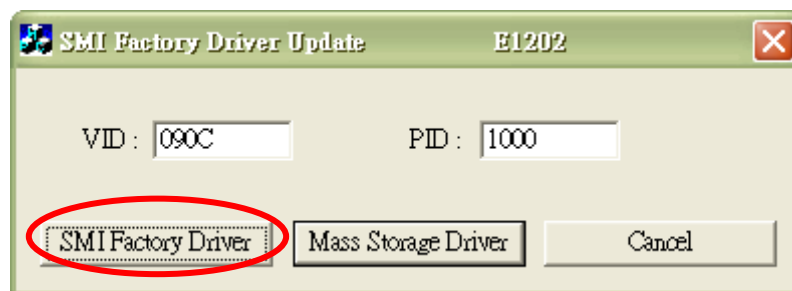

Fig. 7 The installation for Specific USB storage device driver.
Step 3 、 According to your OS version, ran the specific USB storage device driver existed in the 「winXP」、 「Win2000」 or 「win98_factory_driver」 directory, and press the 「SMI Factory Driver」 button for driver installation as Fig. 7. If you want to remove the specific USB storage device driver, press the 「Mass Storage Driver」 button in the Fig. 7. The driver will become the system default and this application program will not support exactly.